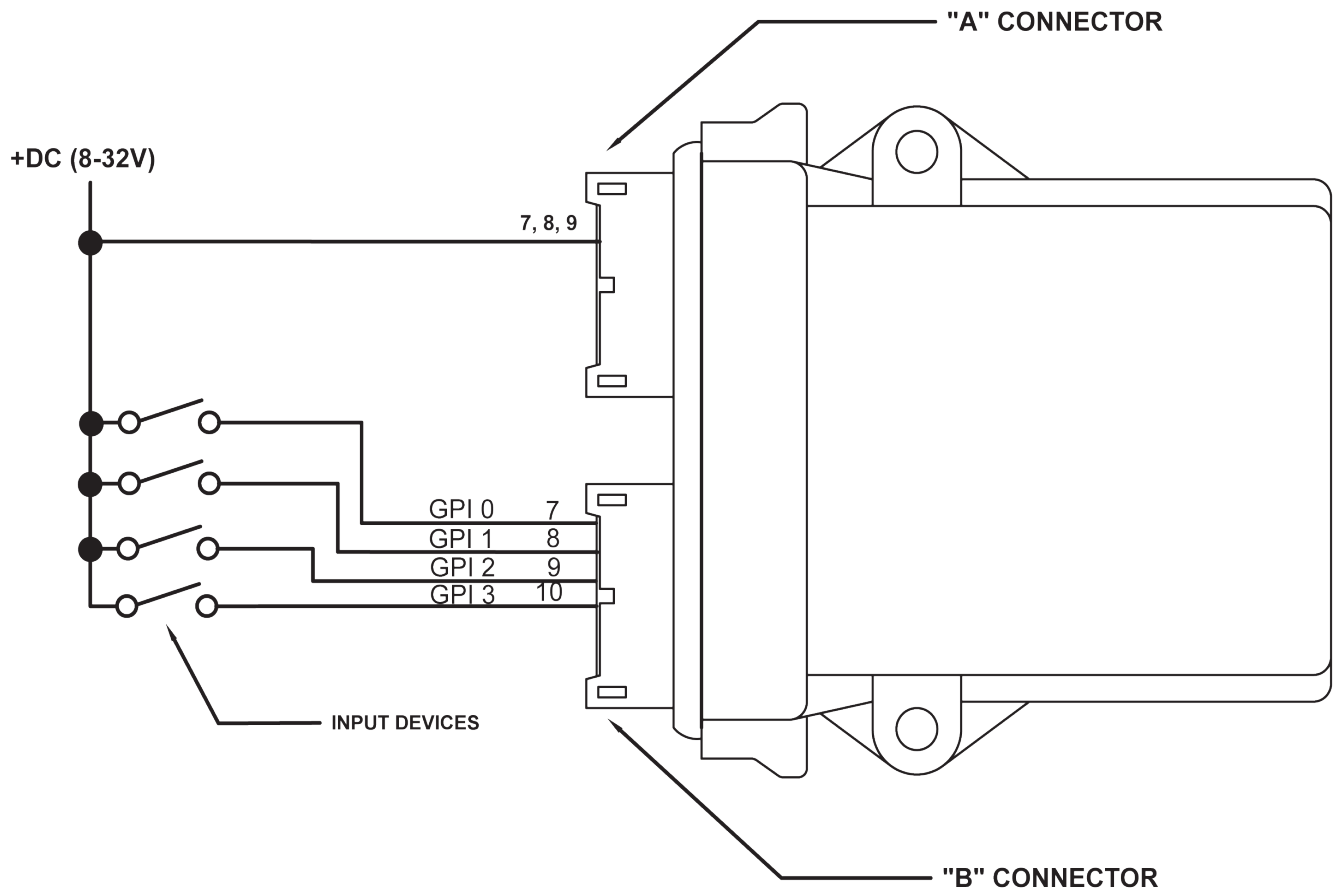

Figure 2.5 - Typical Digital Input Connections
**⊘** It is important that the input device source be the same as the HEC-4xxx input power source as shown. Separate power sources could result in a damage to the controller if input power is lost, but the inputs are still powered. Refer to Figure 2.5.